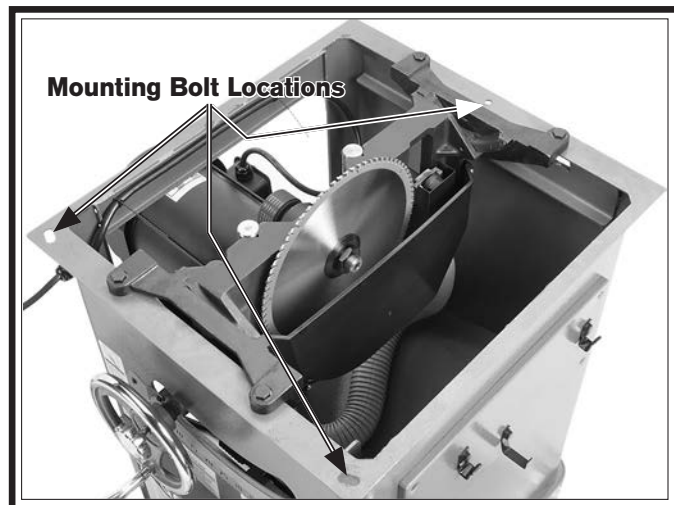

Figure 125. Location of table mounting bolts (table removed for clarity).
6. Loosen (3) table mounting bolts securing table top to base (see **Figure 125**), and lightly tap table in direction needed to square table to blade.